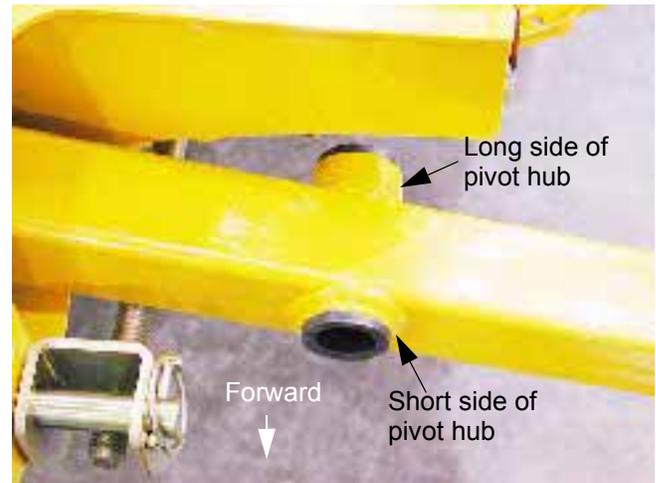

Figure 13.9
13.9. The pivot bar can be withdrawn once the pivot bolt is removed. See Figure 13.9.